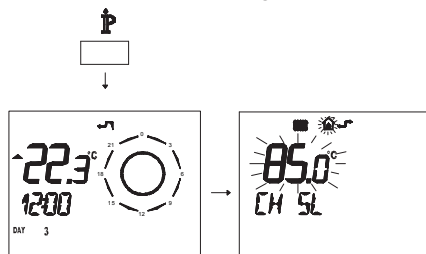

Fig. 8.26
- Press button **P** for more than 3 seconds to enter in **INFO** mode (Fig. 8.26).